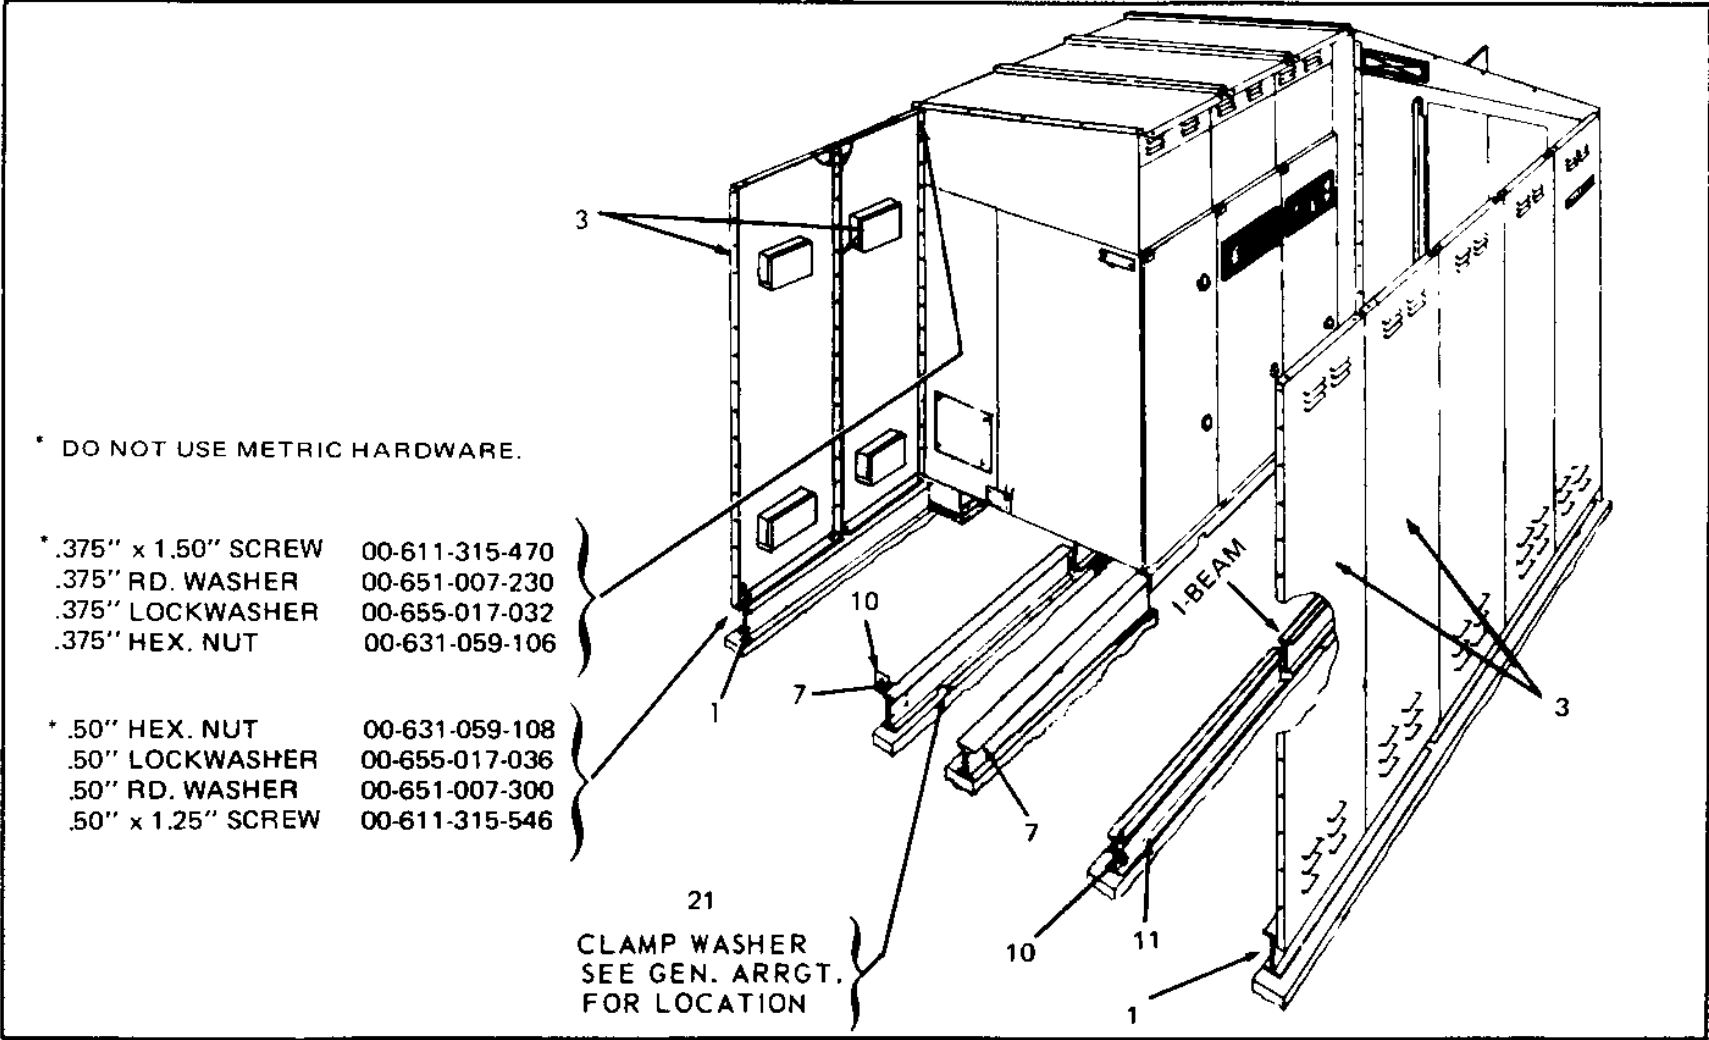

Figure 37. Beam Placement (5 kV) – Single Aisle with Work Space
5. See Figure 37. Put the work aisle and work space beams (1, 7 and 11) in position as indicated on the general arrangement drawing.
6. Assemble aisle walls (3). See general arrangement drawing for location of special panels for fans, etc. Apply .50-inch (12.7 mm) sealant tape at the joints of the wall sections.